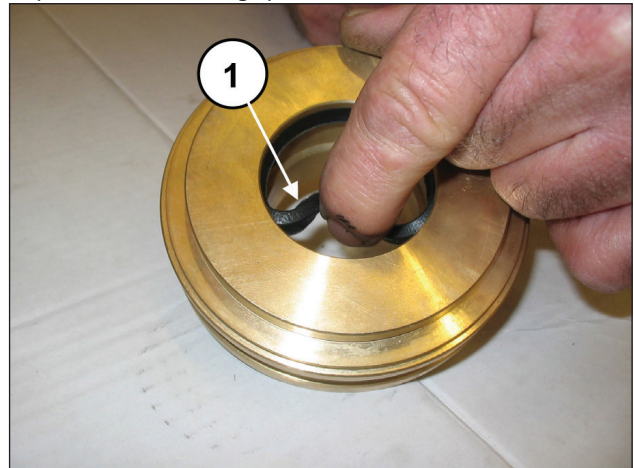

Fig. 134
Insert the low pressure seal in the seal support (pos. ①, Fig. 134) paying attention to the mounting direction which requires that the sealing lip be set forward (towards the head).